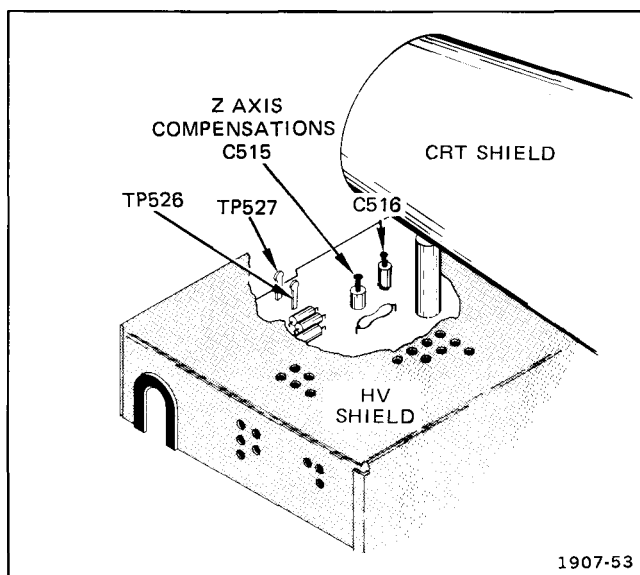

Fig. 6-2. Z axis compensation adjustment locations.
- b. Connect digital voltmeter between TP526 (see Fig. 6-2) and ground.
- c. Connect test oscilloscope, through 10X probe to TP527 (near TP526, see Fig. 6-2). Set test oscilloscope to display about 4 division positive-going pulse. High-voltage oscillator signal will be visible but should be ignored when making following adjustments.
- d. ADJUST—Z Axis Compensations, C515 (see Fig. 6-2) and C516, for optimum square corner of pulse on test oscilloscope.